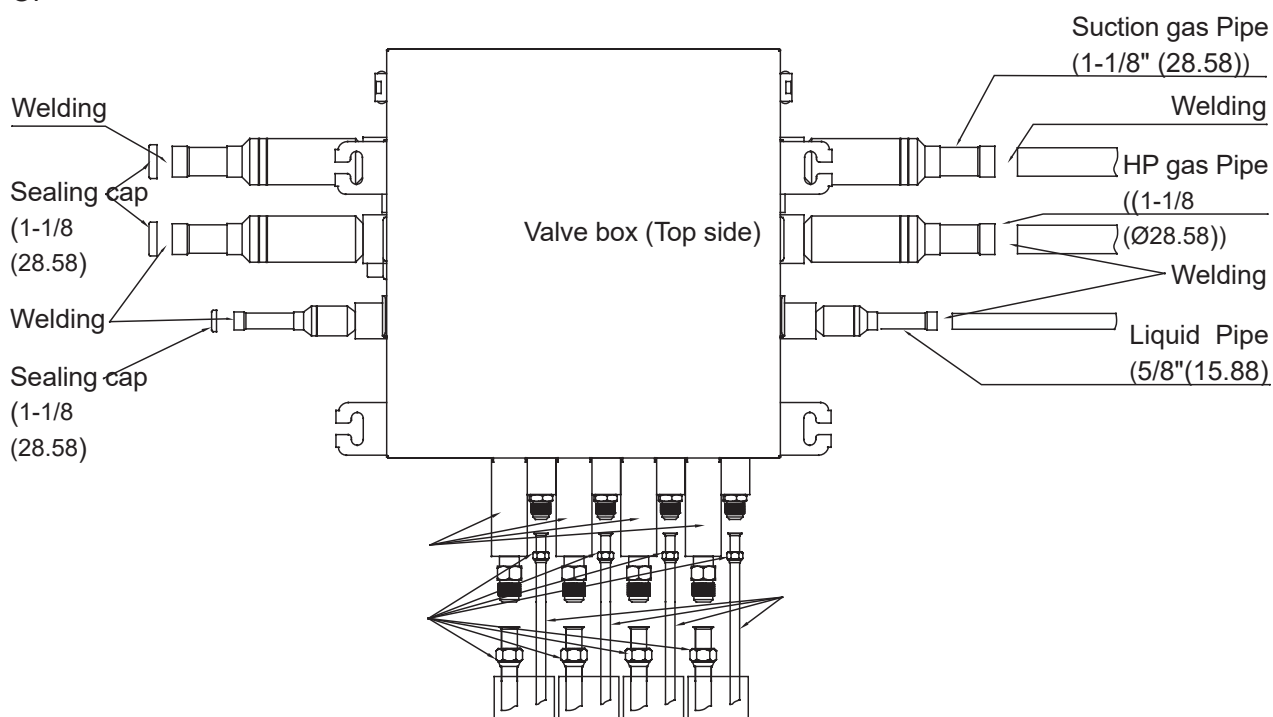

Fig. 11
When a 072, 092 indoor unit is connected in the downstream, please use the auxiliary pipe ①-1,2 for connection according to Fig.11.
When a 122, 162, 182 indoor unit is connected in the downstream, please use the auxiliary pipe ①-1,3 for connection according to Fig.11.
When a High wall 0.8/1HP indoor unit is connected in the downstream, please use the auxiliary pipe ①-1,3 for connection according to Fig.11.